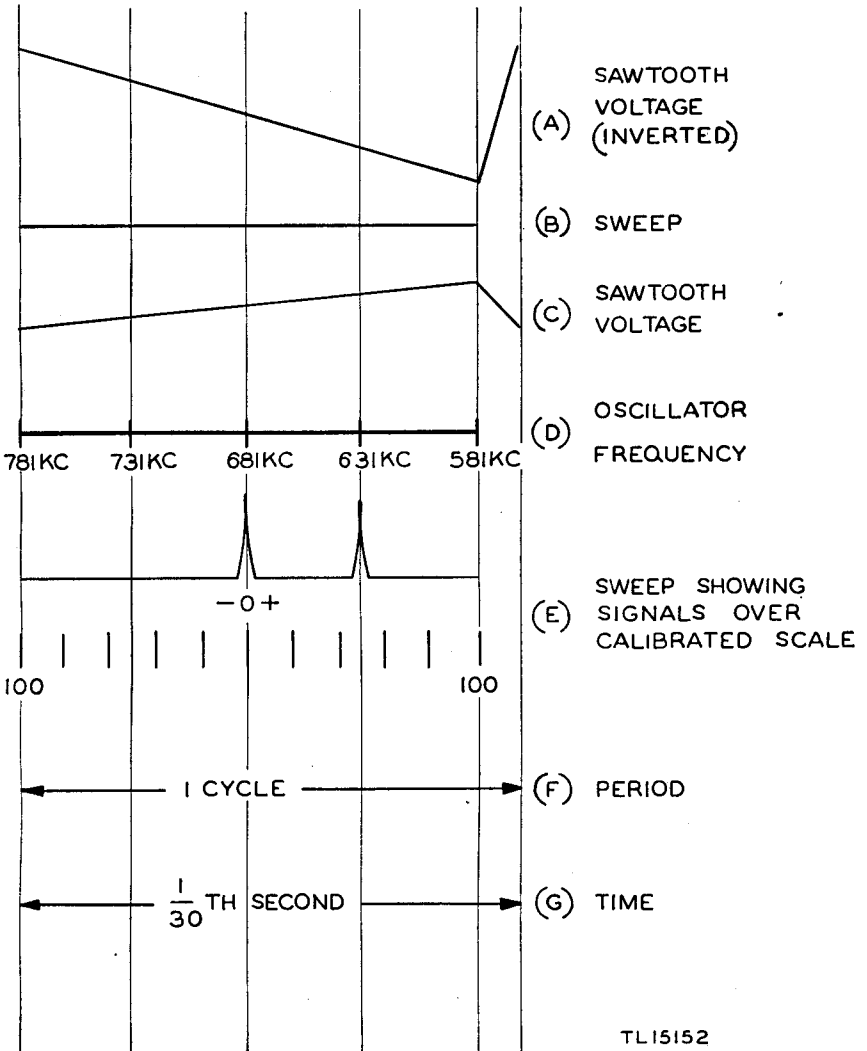

Figure 8. Time, voltage, and frequency relationships.
inverted saw tooth to be applied to the horizontal deflection circuit of the oscilloscope. Thus, at the same instant that the saw tooth (fig. 8(C)) is changing the oscillator frequency from 781 to 581 kc (fig. 8(D)), the inverted saw tooth (fig. 8(A)) steadily moves the oscilloscope electron beam from left to right across the screen tracing a straight line (fig. 8(B)). Since this trace line is thereby synchronized with the oscillator frequency sweep, any position on the line indicates the oscillator is tuned to a definite frequency (fig. 8(D)). When the oscillator is tuned to 681 kc (middle of its frequency sweep), it means the oscilloscope beam has also reached the middle of its horizontal trace.
(8) Assume now that the companion receiver is tuned to a 3,000-kc signal. This signal is mixed with the 3,455-kc signal from the h-f oscillator of the companion receiver to produce the 455-kc intermediate frequency. This latter frequency will pass through the companion receiver to the loudspeaker. It is also fed through the band-pass amplifier to the panoramic mixer. When the h-f oscillator reaches the 681-kc point of its cycle, it mixes with this 455-kc signal to produce the 226-kc intermediate frequency of the panoramic receiver. This burst of signal in the i-f system is detected and applied to the oscilloscope vertical deflection plates producing the peak at the center of the scale (fig. 8(E)). Thus the center (- 0 +) mark on the scale always represents the frequency to which the receiver is tuned, and the calibrations ( $\pm 100$  kc) above and below this point indicate signals which are present on the antenna but are not being reproduced through the loudspeaker. Now, if at the same time the 3,000-kc signal is received, another signal is present on 3,050 kc, this frequency mixes with the h-f oscillator of the companion receiver to produce a 405-kc i-f. Since the companion receiver i.f. is sharply tuned to 455 kc, this signal never reaches the loudspeaker. However, it passes through the special band-pass amplifier to the panoramic mixer. When the h-f oscillator reaches the 631-kc point (fig. 8(D)) of its cycle, it beats with the 405-kc signal to produce the 226-kc frequency of the panoramic i-f system. This burst of i-f energy is detected and causes a peak to appear on the screen at the +50-kc point (fig. 8(E)), the electron beam having reached in this time a point midway between the center and the right side of the screen. The 3,050-kc signal, therefore, is not heard but its presence is indicated on the panoramic screen.
**NOTE:** The saw-tooth voltage waveforms shown in figure 8(A) and 8(C) are theoretical representations. The linearity (rate of change) of actual saw-tooth voltages used in practice only approaches these ideal wave-forms. The amplitudes of the two saw-tooth voltages shown in figure 8 have a ratio of 2 to 1. Actually, the amplitude of the saw-tooth voltage applied to the horizontal plates of the cathode-ray tube in the adaptor is approximately 20 times as great as the saw-tooth voltage applied to the grid circuit of the reactance modulator.
(9) By similar reasoning it will be seen that any signal within the 200-kc bandwidth of the special band-pass amplifier will pass through the i-f amplifier of the adaptor at the correct time to appear on the screen in its proper relationship to other signals.
(10) Figure 8 shows one complete cycle of operation. This cycle is periodic and repeats approximately 30 times a second.